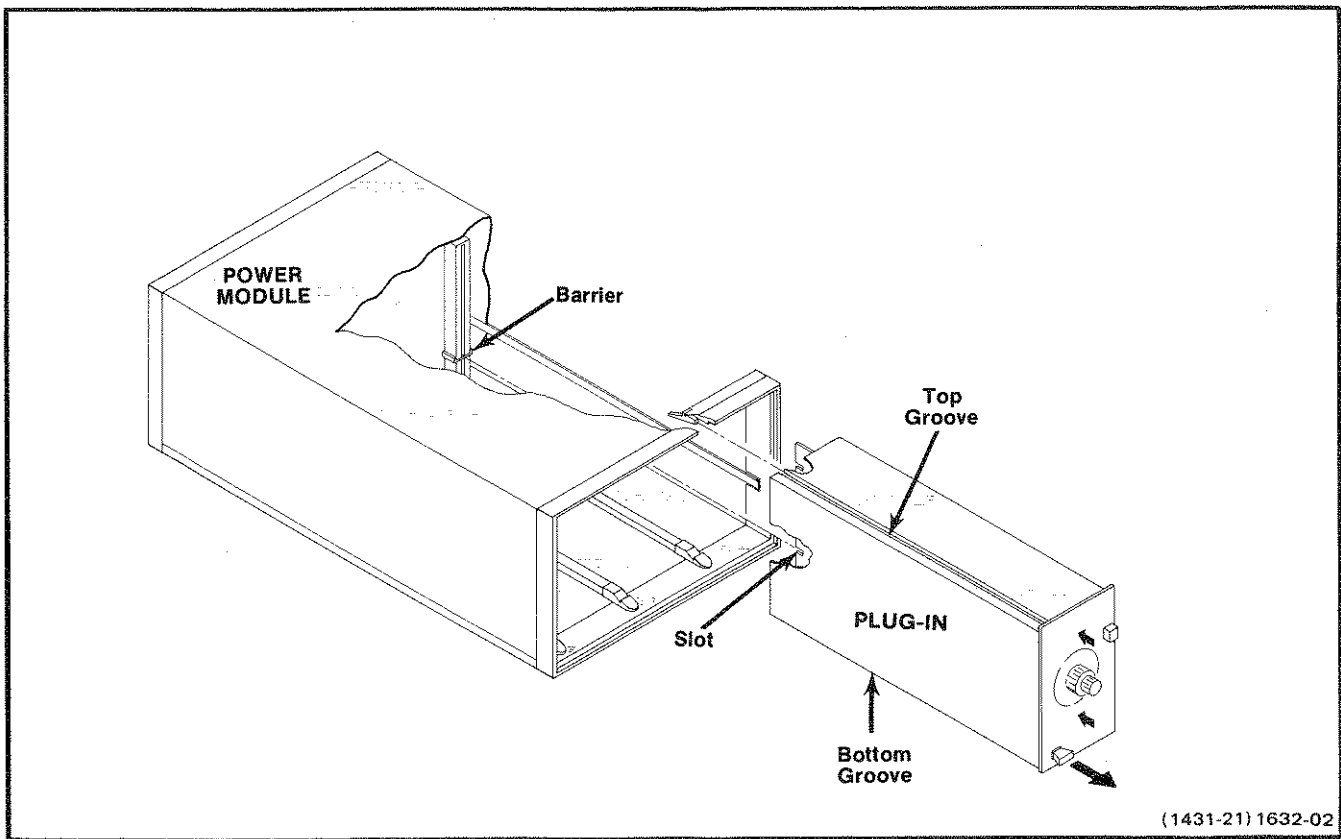

Fig. 2-1. Plug-in installation and removal.
*Turn the power module off before inserting the plug-in; otherwise, damage may occur to the plug-in circuitry. Because of the high current drawn by the PG 506, it is also recommended that the power module be turned off before removing the PG 506. Refer to Fig. 2-1. Check to see that the plastic barriers on the interconnecting jack of the selected power module compartment match the cut-outs in the PG 506 circuit board rear edge connector.*